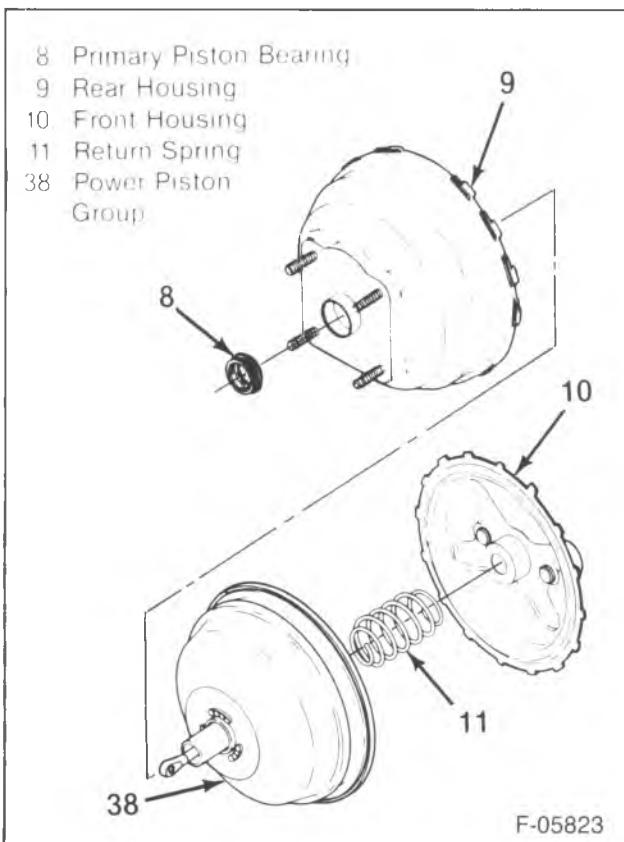

Figure 26—Booster Inner Components
- Return spring (11) and power piston group (38) (figure 26).
- Primary piston bearing (8) from the rear housing (9).
- Piston rod (12), reaction retainer (13) and power head silencer (14).